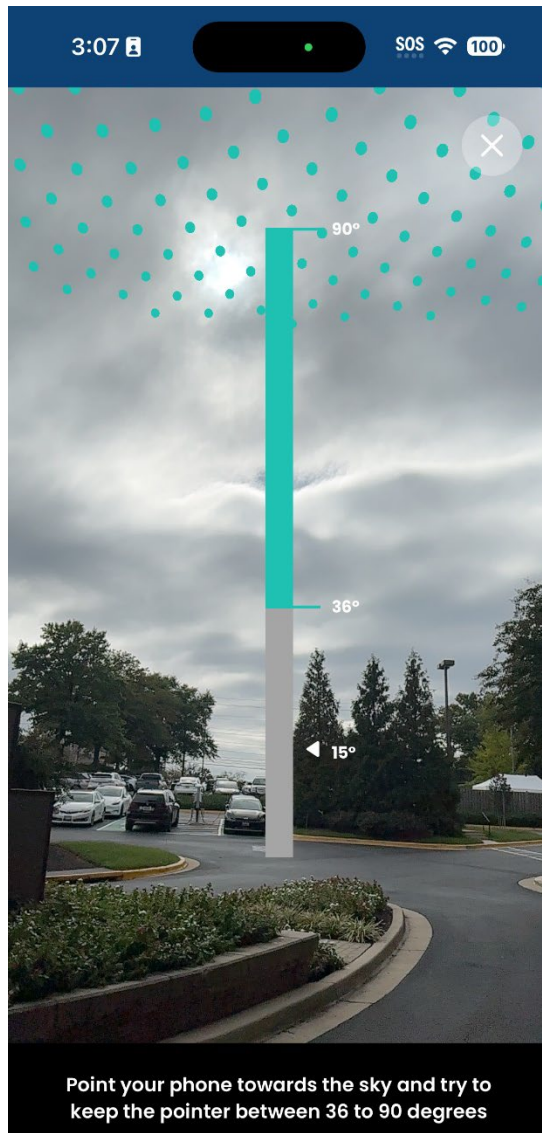

Figure 78: Pointing the phone
- Hold your phone at the same height as the HL1100-ODU antenna being installed. Point your phone toward the sky at an angle between 36° and 90° . The arrow indicator on the screen (Figure 78) shows the current angle of your phone. Attempt to keep that arrow within the green line.